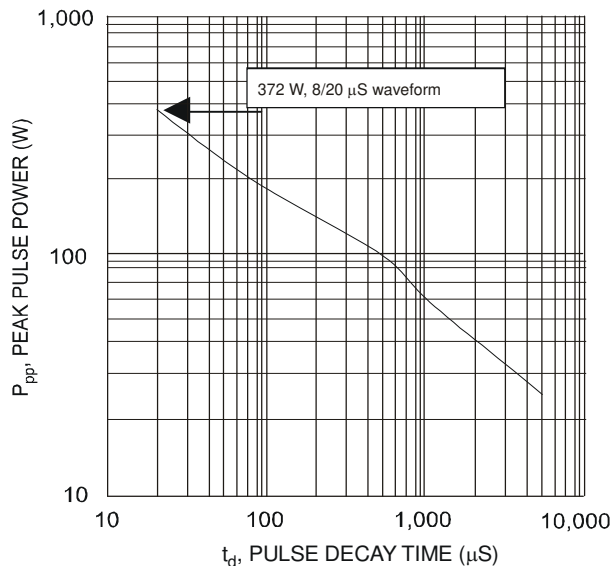

Fig. 2 Unidirectional Non-Repetitive Peak Pulse Power vs. Pulse Duration or Pulse Width
e.g. $P_{pp} = 372 \text{ watts}$ for pulse width(td) of 20 μS , then $372 \text{ watts} = K (20)^{-0.5}$ and $K = 372 / (20)^{-0.5} = 372 * \sqrt{20} = 1663.63$
Now, P_{pp} when $td = 50 \mu S$: $P_{pp} = 1663.63 (50)^{-0.5} = 1663.63 / (\sqrt{50}) = 235.27 \text{ watts}$ (close to measured value see fig. 2)